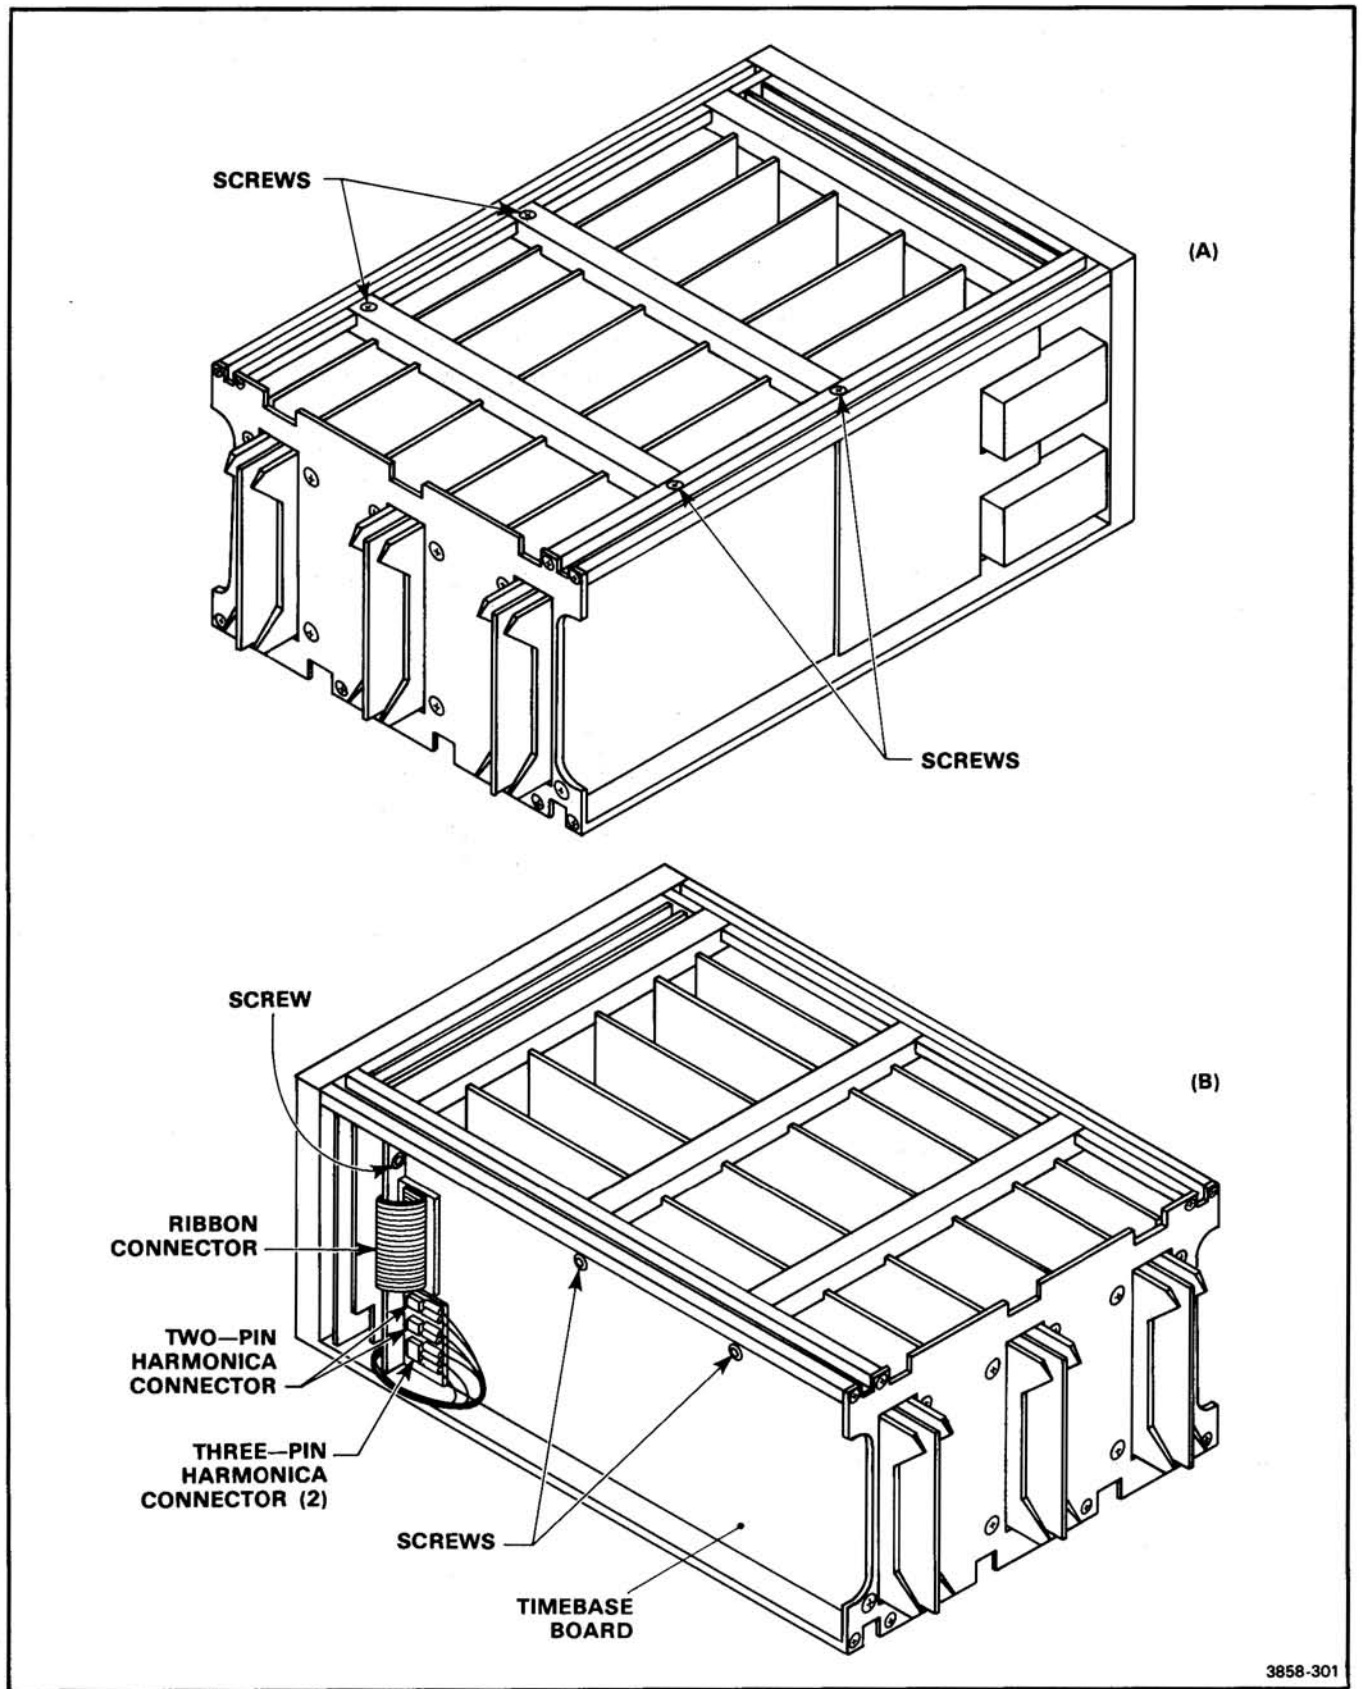

Figure 3-5. Board guide and Interconnect Board Removal.
1. Place the 7D20 in its normal, upright position (A), with the front panel facing you.
2. Using a #2 Phillips screwdriver, remove the four flathead screws that fasten the upper board guides in place. See Figure 3-5.
3. Turn the 7D20 counterclockwise (B) to expose the Time-base board. Remove the two screws that secure the board to the upper board guides. See Figure 3-5.
2. Remove the two Phillips-head screws that secure the Timebase Board to the board guides. See Figure 3-5.